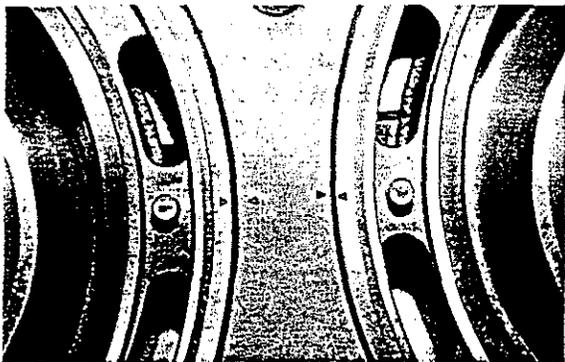

Fig. 92 Assembly marks of sleeve setting
- b) When the push rod has been inserted, correctly locate the position of the cylinder sleeve, setting it to the countermark (refer to Figure 92).